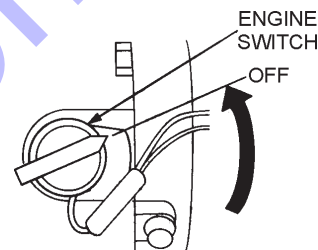

Figure 10. Engine ON/OFF Switch (OFF)
- After the engine **cools**, turn the engine ON/OFF switch to the "OFF" position (Figure 10).